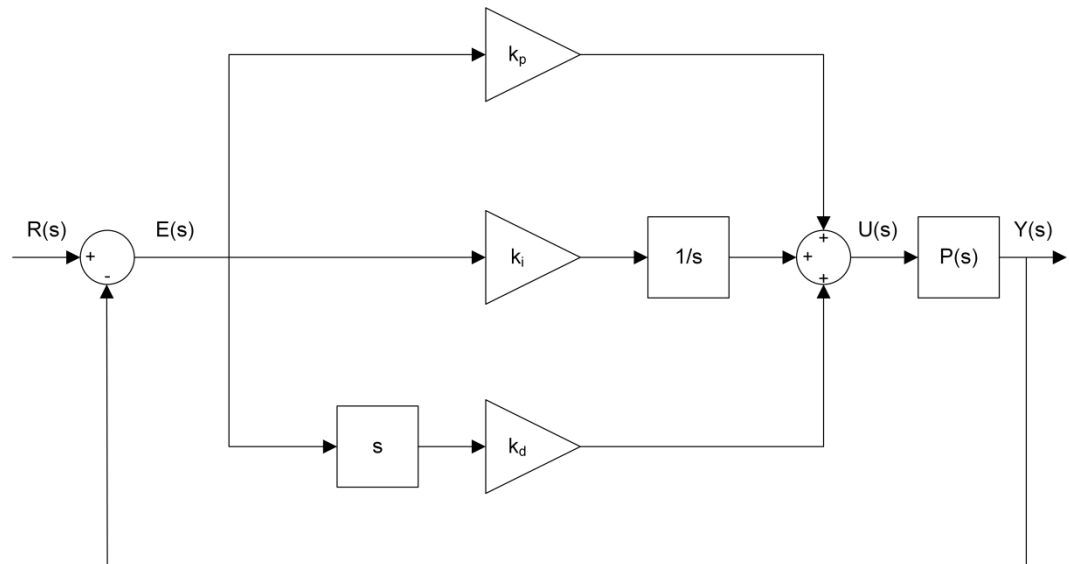

Figure 1.1: Block diagram of PID control
The corresponding block diagram is given in Figure 1.1. The control action is a sum of three terms referred to as proportional (P), integral (I) and derivative (D) control gain. The controller Equation 1.1 can also be described by the transfer function